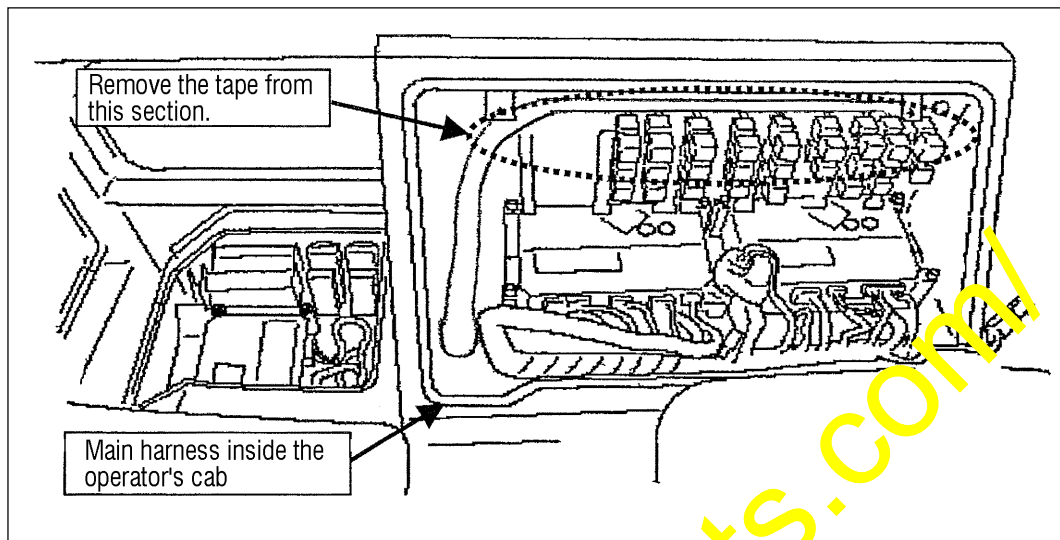
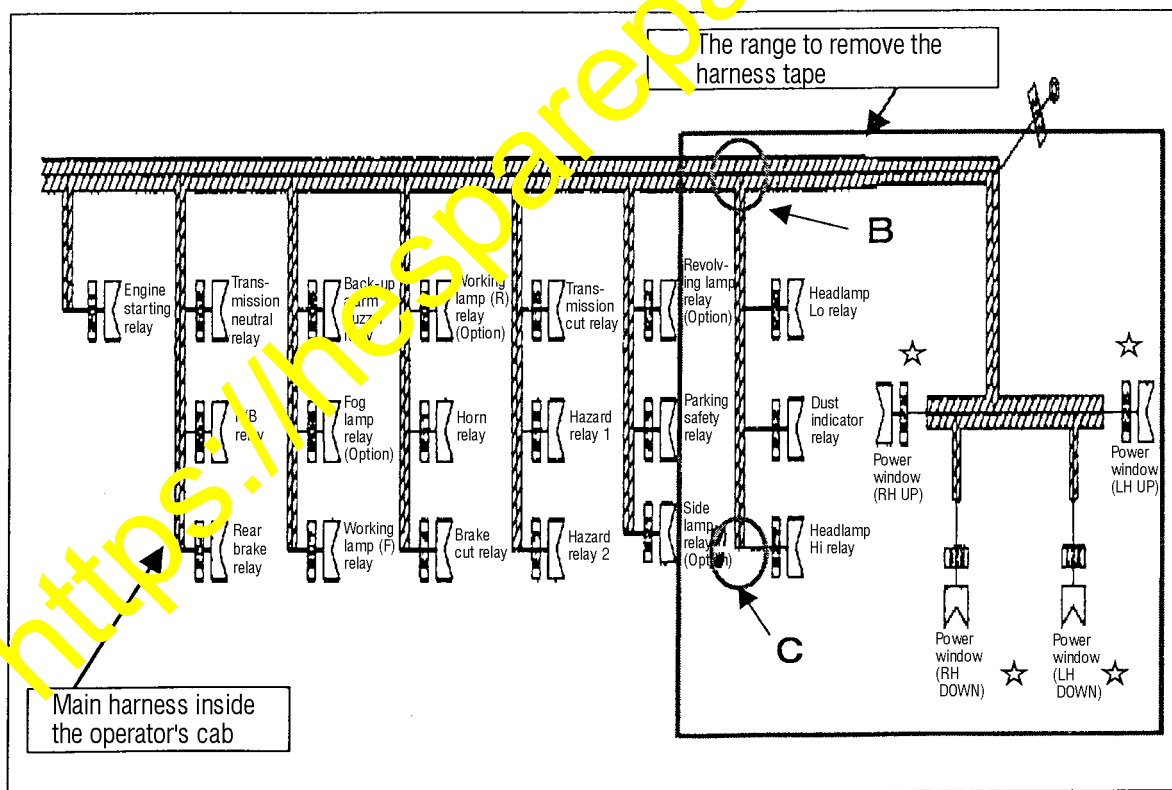
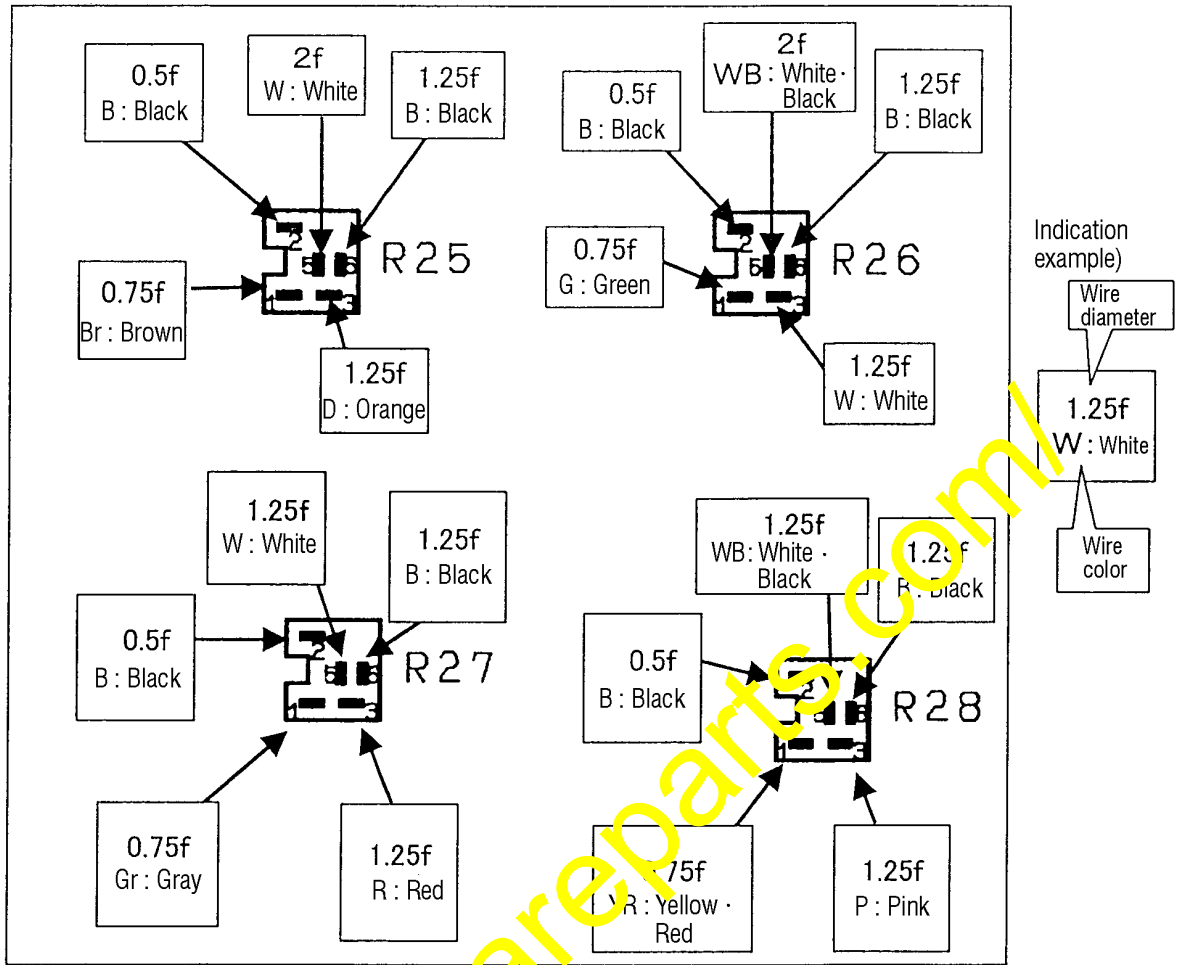
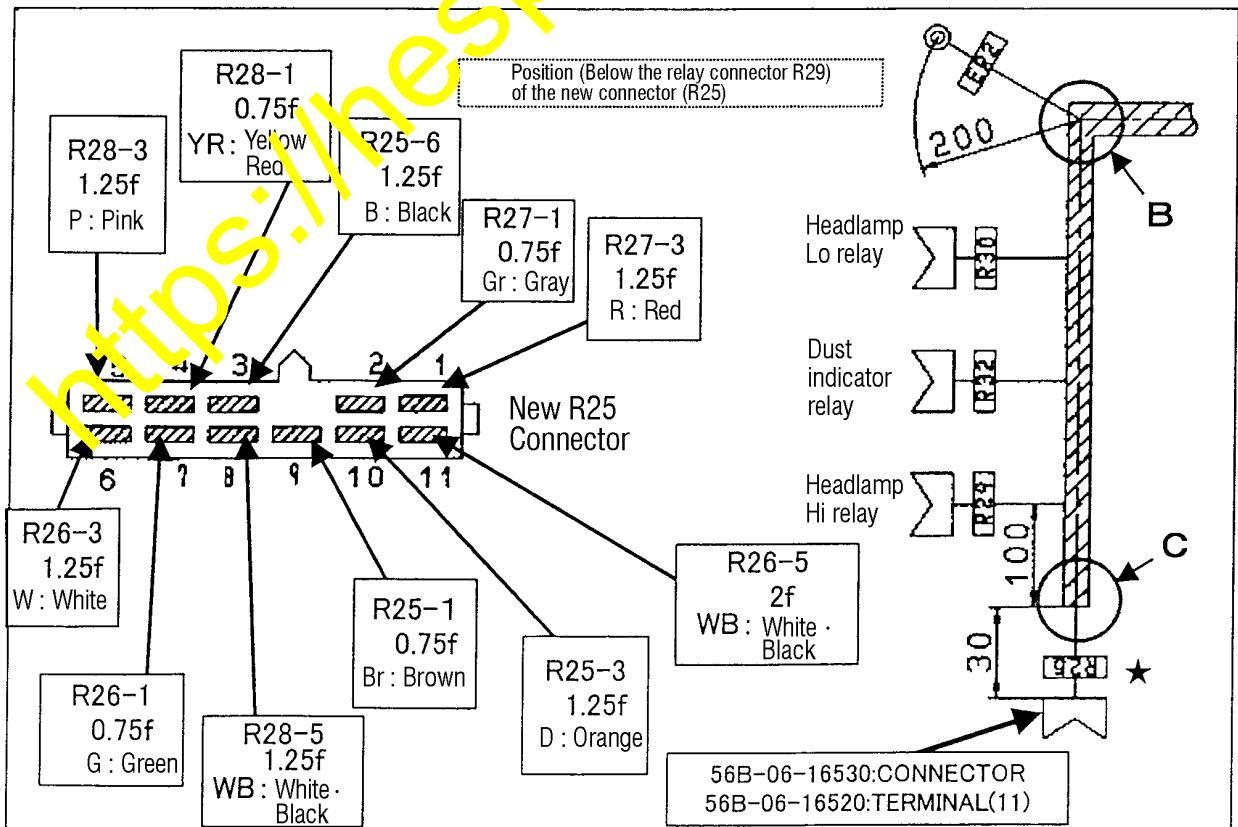

Fig. 21
Fig. 22
Fig. 24
Fig. 25
(2) Modification procedure for the main harness inside the operator's cab
- (i) Remove the tapes from the main harness inside the operator's cab at the sections connecting to the relays. (Refer to Fig. 21 and Fig. 22.)
(R25, R26, R27 and R28 : sections marked ☆ in Fig. 22 to the new connector (New R25)
(The section marked ★ in Fig. 25).
(i) Connect the leads of the relay connectors (R25 through R28) (Refer to Fig. 24) to the centralized connector (New R25). (Refer to Fig. 25.)
2) Cut the separated leads at the point 150 mm away from the point C, after passing through the section B and section C (Refer to Fig. 22 and Fig. 25) once again at equal lengths (Note 7) and remove the insulation covering by 7 mm.
4) Install the terminal into the new connector (56B-06-16530) (New R25). (Refer to Fig. 25.)